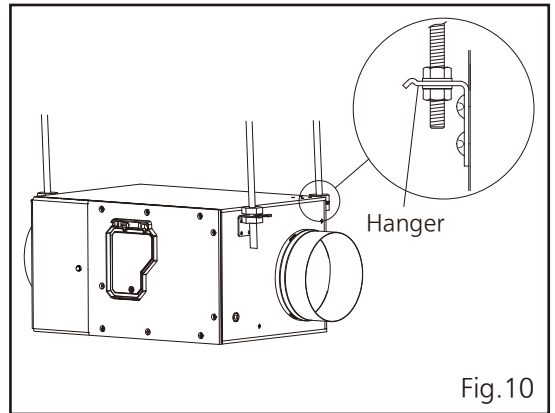

Fig.10
3. Install the product on hanger bolts and fix the nuts tightly. (Fig.10)